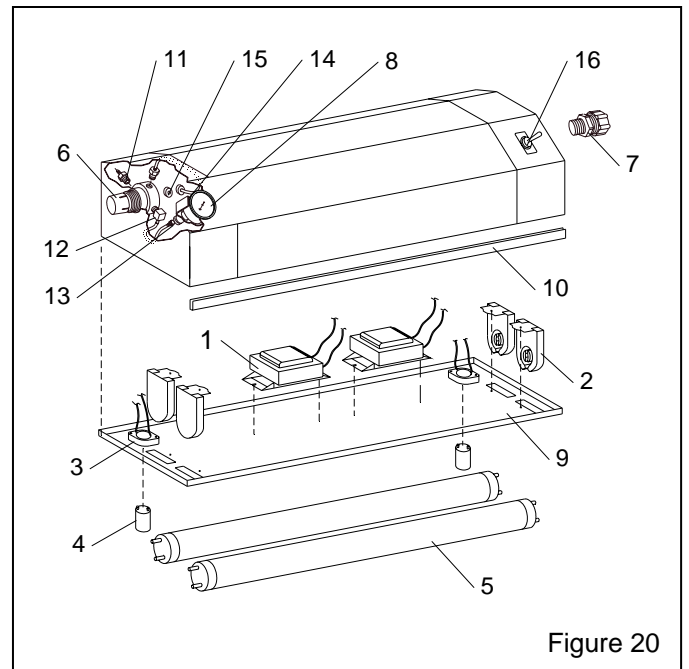

Figure 20
8.6 Light Shield Assembly, Figure 20